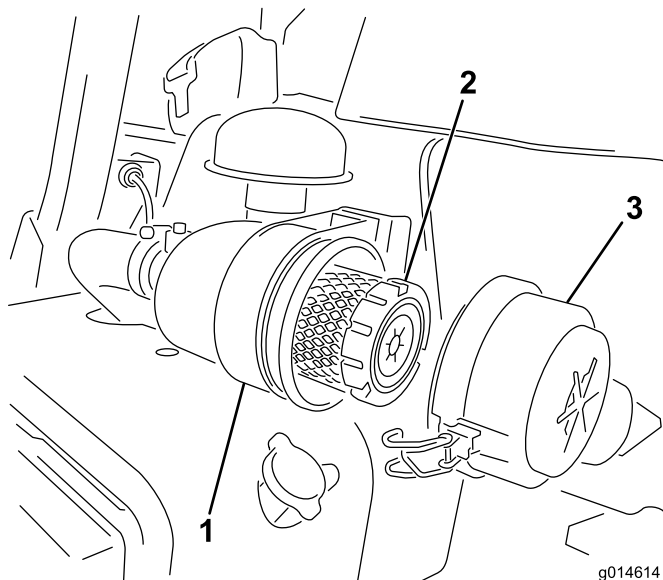

Figure 42
1. Release the latches securing the air cleaner cover to the air cleaner body (Figure 42).
6. Secure the latches (Figure 42).